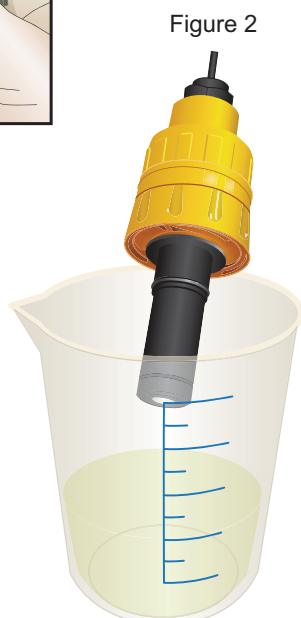

Figure 2
12. Position or suspend the sensor 0.2 mm to 12 mm (¼ in. to ½ in.) above the appropriate solution. **See Figure 2. DO NOT SUBMERGE THE SENSOR.**